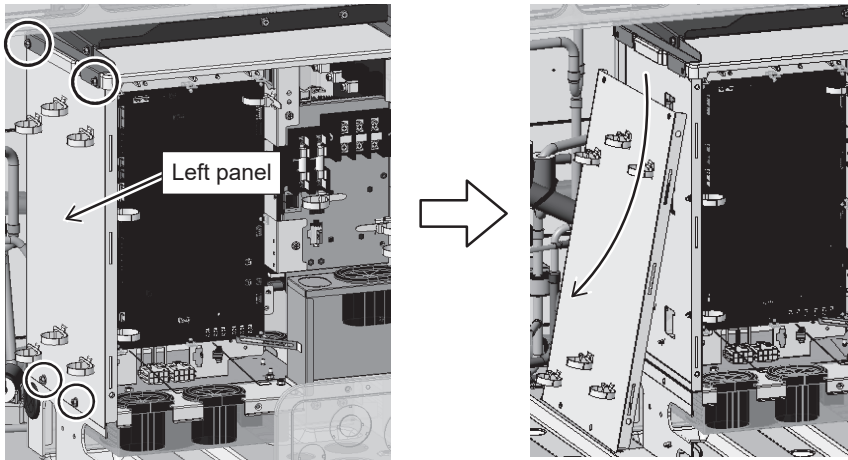

Figure 3
- (4) Remove the left control box panel (*applicable to the XL and EXL modules only). (4 screws as shown in Figure 3.)